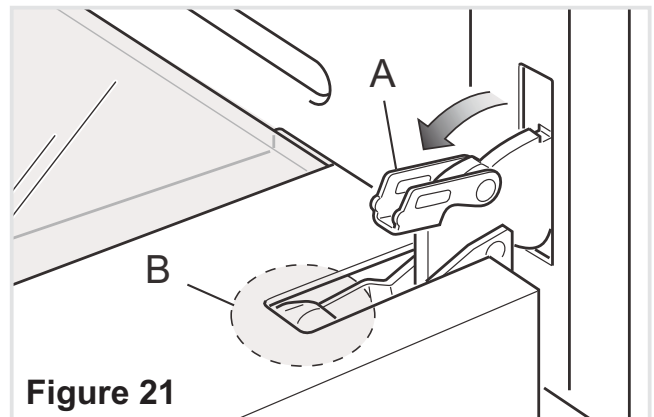

Figure 21
- Open the lever “A” completely on the left and right hinges (fig. 21).
- Gently close the door until left and right hinge levers “A” are hooked to part “B” of the door (figs. 21, 22).